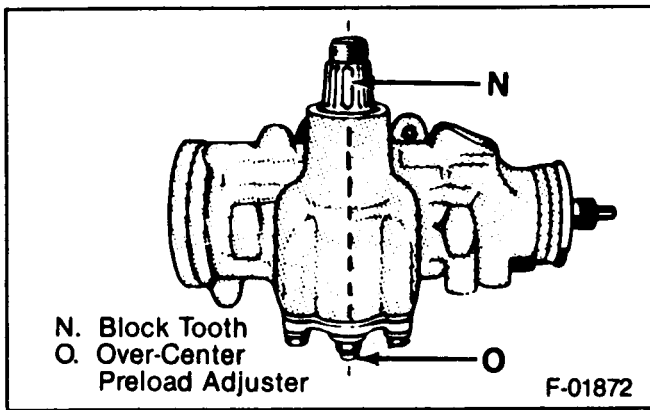

Figure 20—Pitman Shaft "Over-Center" Sector Adjustment
- Check the turning torque of the stub shaft, using J-7754-01 and a 12-point socket. The reading should be taken with the beam of the wrench near vertical while turning the wrench to the left at an even rate (figure 20). If the reading is less than 0.45 N·m (4 in. lbs.) or more than 1.15 N·m (10 in. lbs.), repeat the adjustment procedure.
- Lubricate the stub shaft (251) area outside the dust seal (206) with chassis lubricant or an all purpose grease.